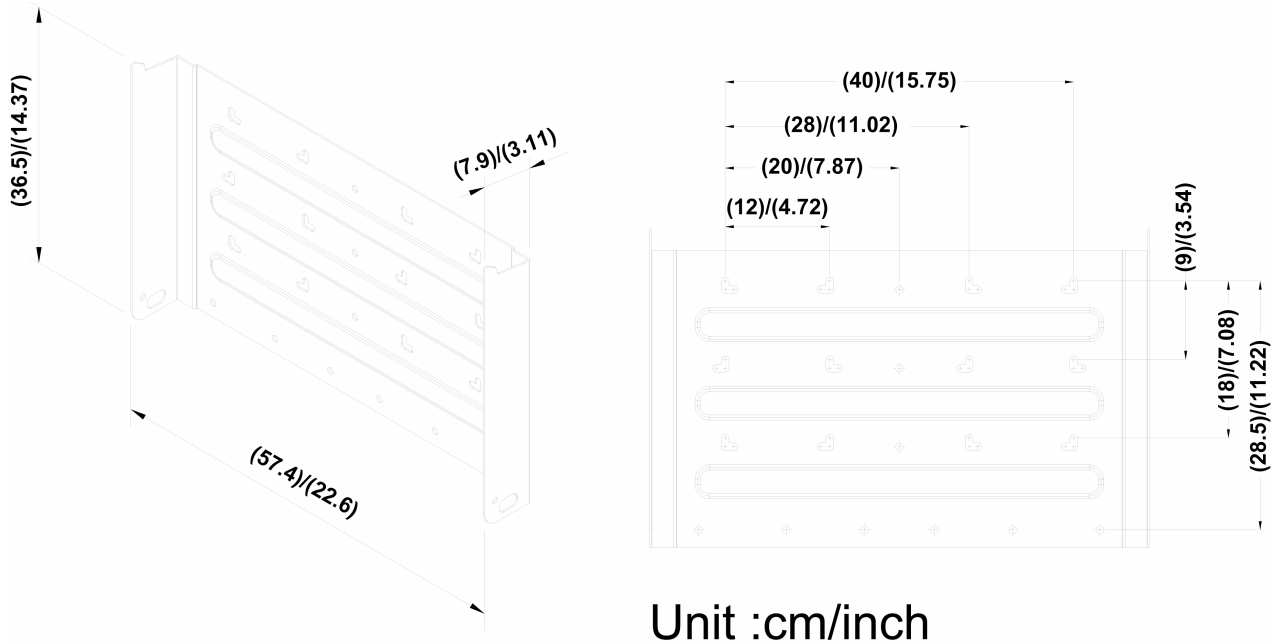

Fig 2.2.2
2. Use the mount bracket (Fig 2.2.2) as a template to mark the location of the holes to be drilled in the wall. After drilling the holes, the mounting bracket is then held against the wall and fastened to the wall with anchors as shown in Fig 2.2.3. (At least ten (10) screws required)